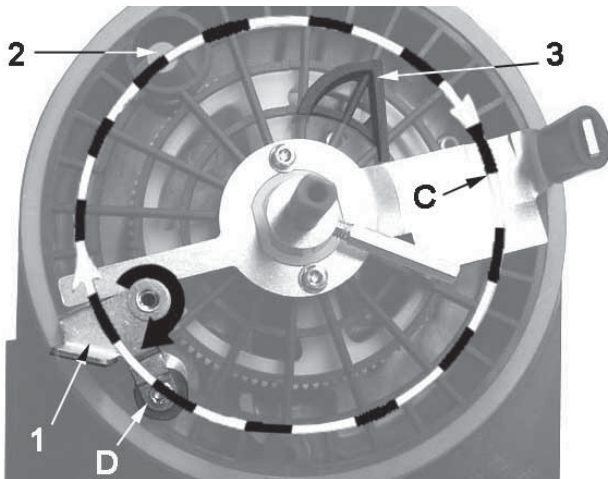

Figure 16 Switching parts of the low-level control for grease (when the reservoir is empty).
- Magnet and low-level switch (2) (fig. 16) are not aligned and switch can not be activated.
Grease Reservoir Empty - Fig. 16